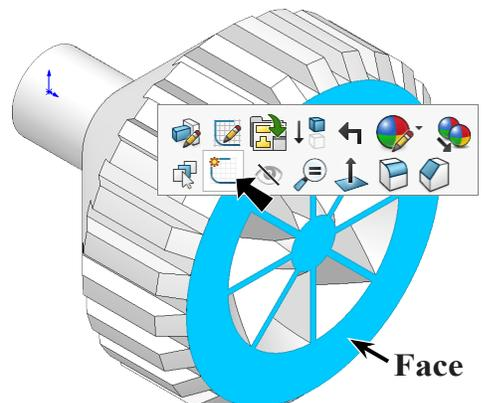
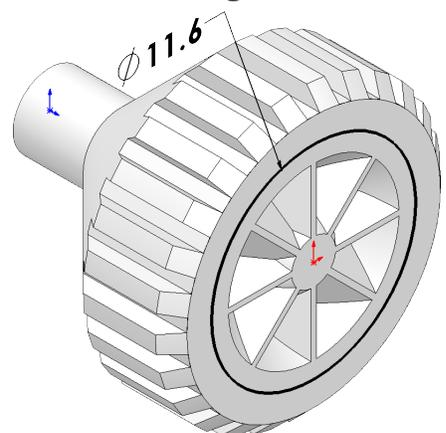

Fig. 31
Fig. 32
Step 1. Click the **side face of revolve** and click **Sketch**  on the context toolbar, **Fig. 31**.
Step 2. Click **Circle**  (S) on the Sketch toolbar.
Step 3. Sketch circle at **Origin** , **Fig. 32**.
Step 4. Click **Smart Dimension**  (S) on the Sketch toolbar.
Step 5. Dimension **diameter 11.6**, **Fig. 32**.